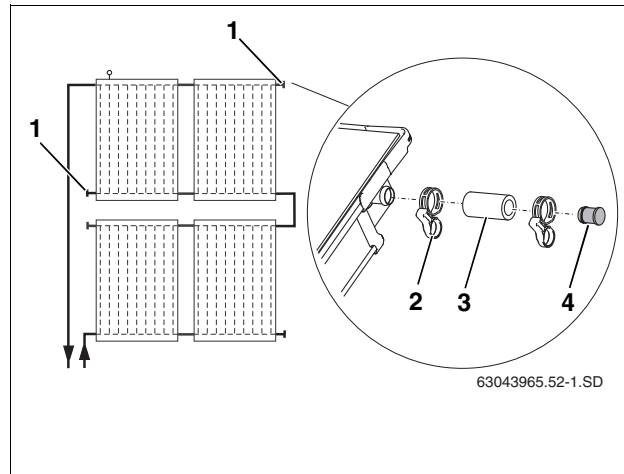

Fig. 55 Installing the preassembled dummy plugs
Use the dummy plugs to close up any collector connections not in use (Fig. 55, [1]).
- ▶ Place 2 in (55 mm) solar hoses (Fig. 55, [3]) together with the preassembled dummy plugs onto the two free connections.